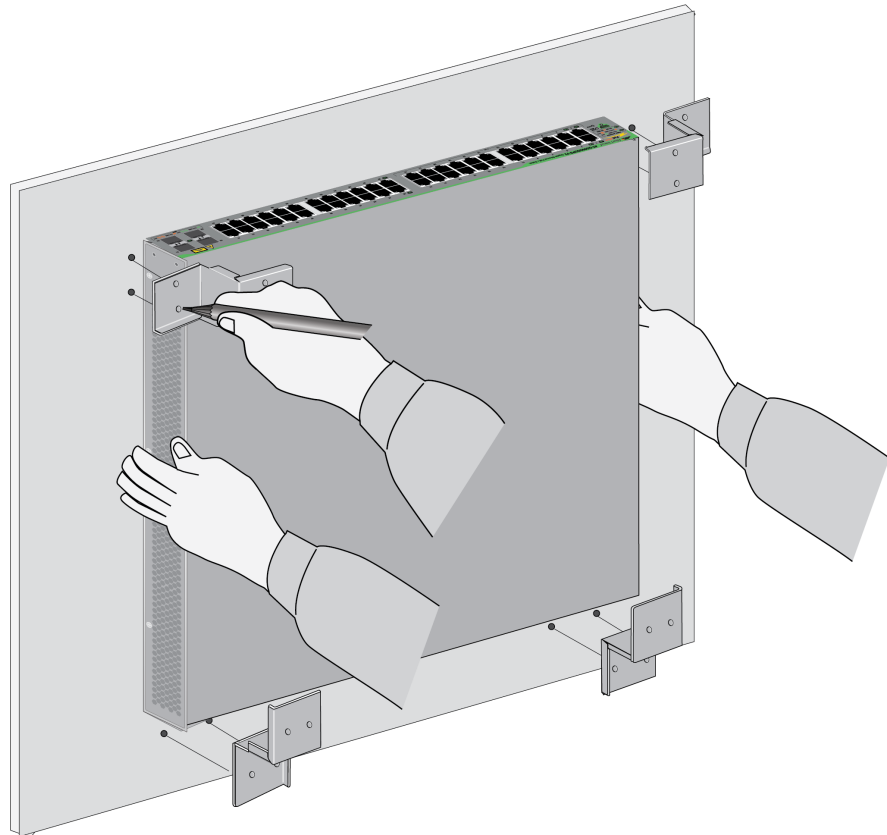

Figure 36. Marking the Screw Holes for the BRKT-J22 Brackets
2. Have another person position the brackets and mark the eight screw holes. Refer to Figure 36.